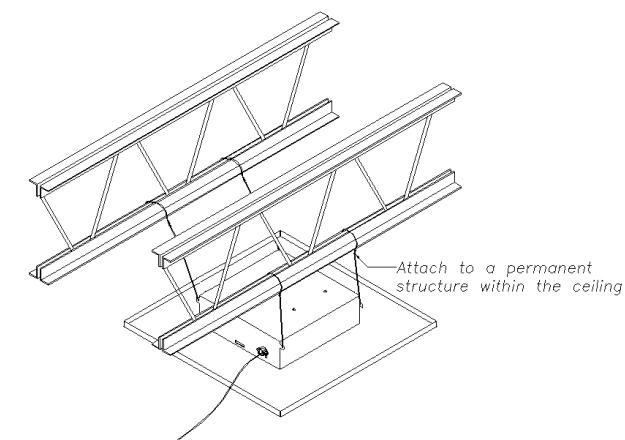

Figure 3
**Step 3** – Use minimum 12-gauge support wire (included) to support the backbox independently of the ceiling grid. Attach one end of the wire to the support wire tabs located along the edge of the back box and the other end to a permanent supporting structure within the ceiling such as a ceiling joist (Ref. Figure 3).